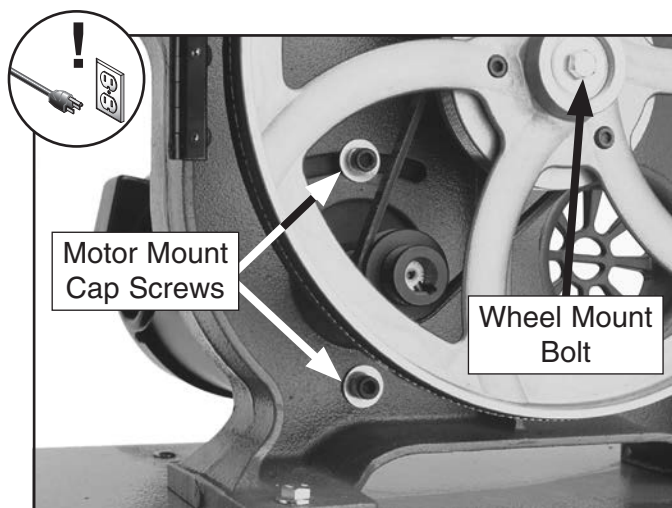

Figure 61. Locations of the wheel mount bolt, and motor mount cap screws.
3. Loosen the motor mount cap screws shown in **Figure 61**.